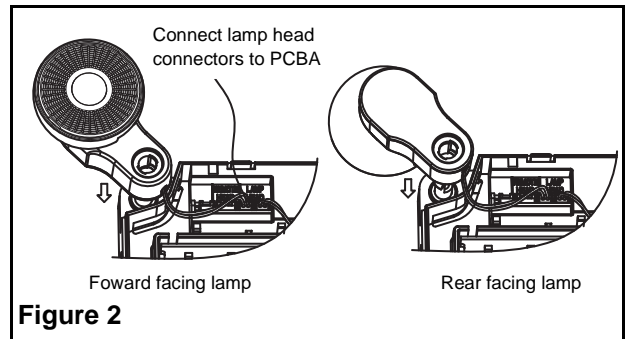

Figure 2
Note: for ceiling and end mount installation, the lamp heads can be mounted in the forward or rear facing position (see figure 2).
4. Attach the connectors from the lamps to the PCBA (see figure 2).